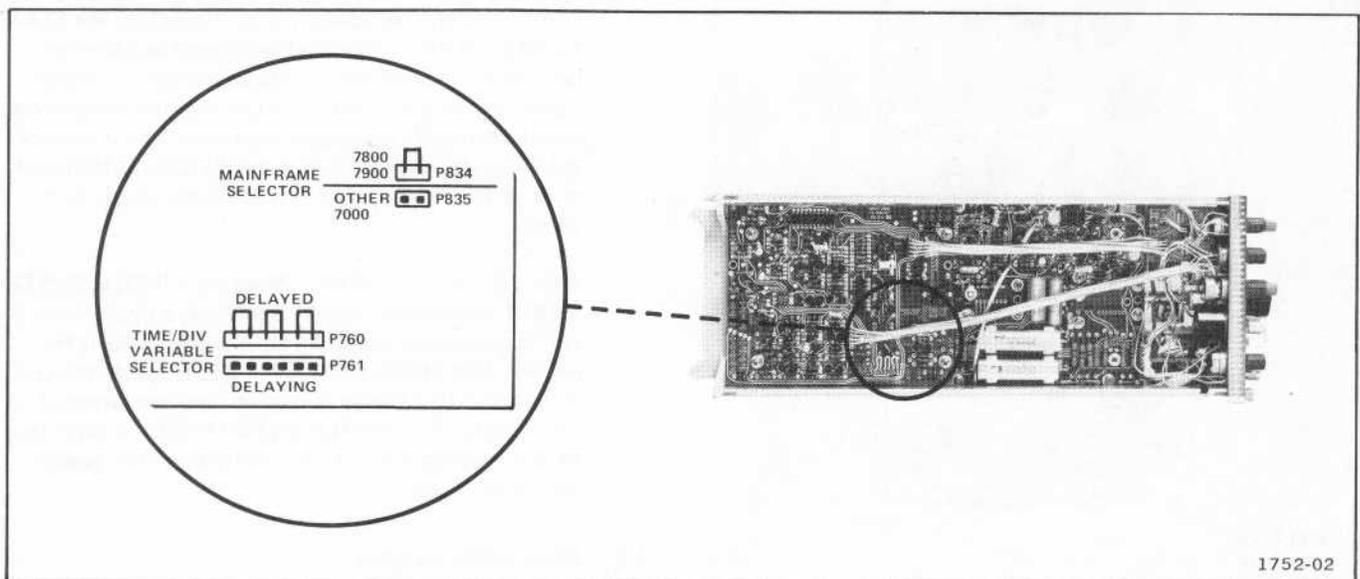
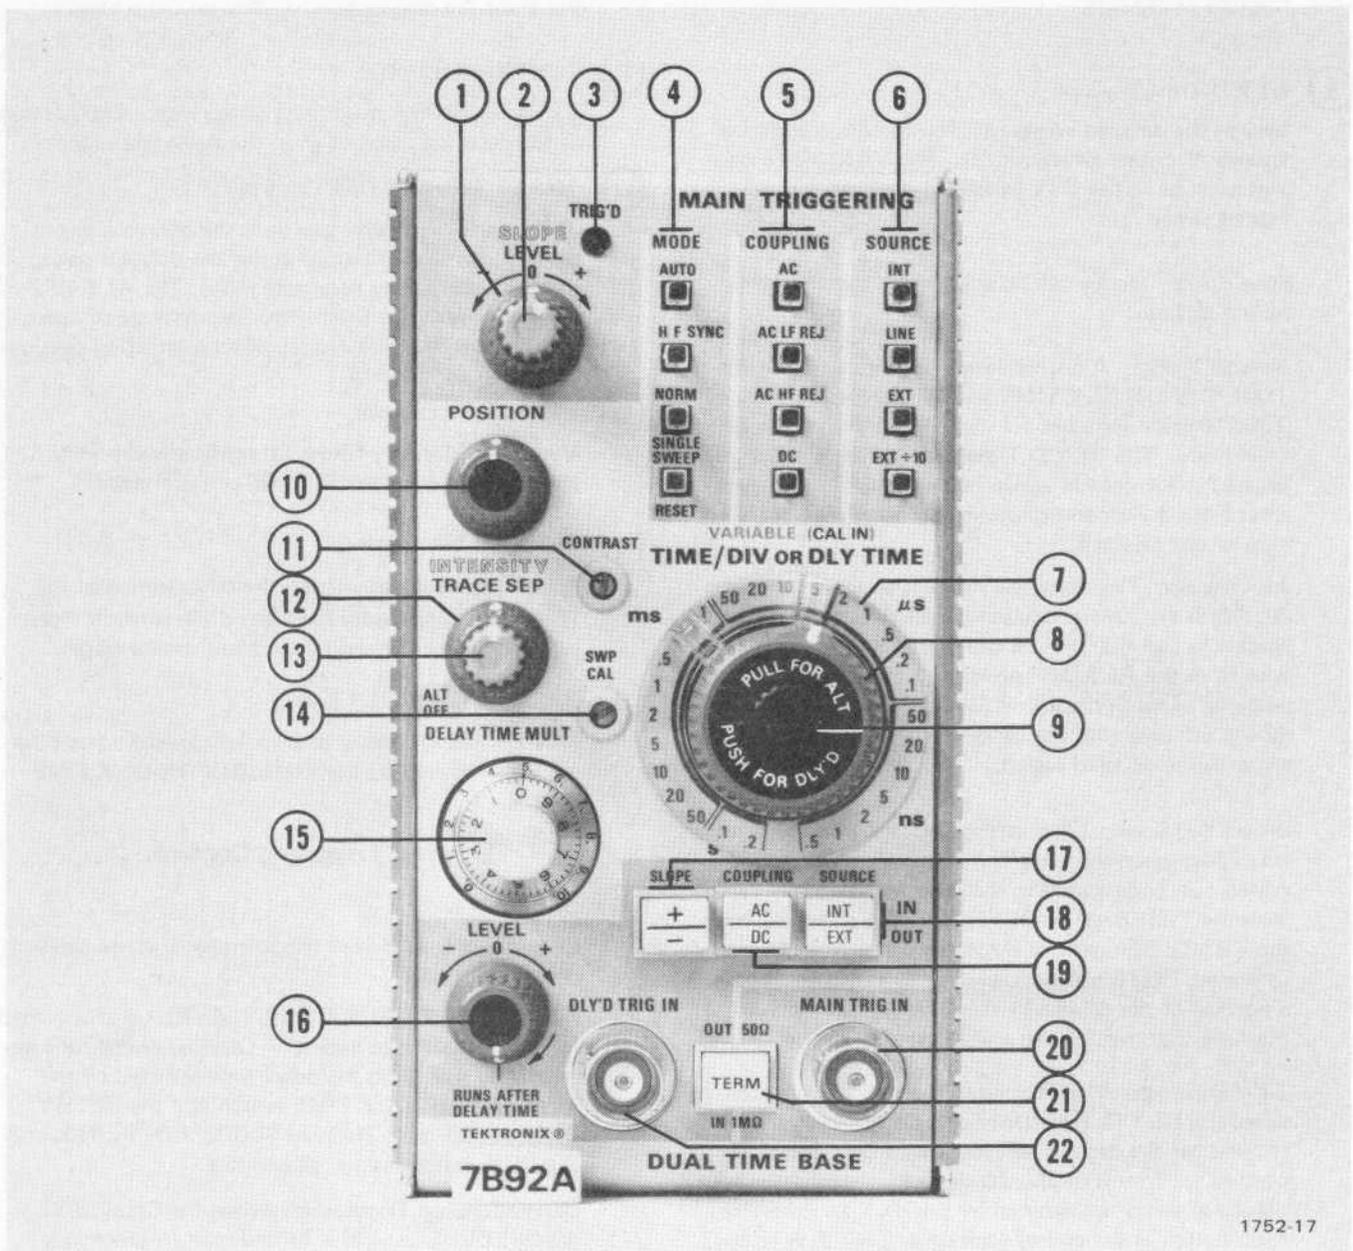

Fig. 2-1. Location of Variable and Mainframe Selector multi-pin connectors.
Fig. 2-3. Front-panel controls and connectors.
Before proceeding with installation, check the settings of the Time/Div Variable Selector multi-pin connector and the Mainframe Selector multi-pin connector (see Fig. 2-1). The Time/Div Variable Selector determines whether the front-panel Time/Div VARIABLE control operates in conjunction with the delaying or delayed sweeps. The Mainframe Selector adapts the 7B92A to the oscilloscope mainframe being used. The two mainframe selections are:
All controls, connectors, and indicators required for the operation of the 7B92A, except the Time/Div Variable and Mainframe Selectors, are located on the front panel. A brief description of the front-panel controls, connectors, and indicators is given here. More detailed information is given under General Operating Information. Fig. 2-1 shows the Time/Div Variable and Mainframe Selectors. Fig. 2-3 shows the front-panel controls, connectors, and indicators.
**Intensified Sweep:** The intensified sweep mode (Intens) is selected when the DLY'D Time/Division switch is pulled out, and rotated to the desired sweep rate faster than the TIME/DIV or DLY TIME switch setting, and the TRACE SEP control is rotated counterclockwise to the ALT OFF position (see Fig. 2-3). In this mode, a portion of the delaying sweep is intensified during the time that the delayed sweep generator runs.
⑨ VARIABLE